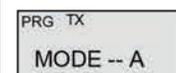

Figure 9
- LCD will Display " ^{PRGTX}MODE-A" for programming the **TX Mode**. (See Figure 9) Press the "PRI" key to toggle between " A", "D", or "M". Select "A" and press the "ENT" key.